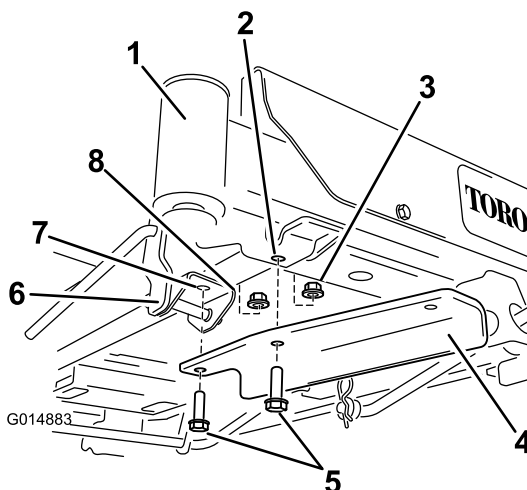

Figure 5
- For machines with a foot assist lift pedal: The washers will not be needed. Instead, remove the forward fasteners in the foot assist lift pedal bracket. Secure the bracket using two bolts and two lock nuts (Figure 5). One locknut is from loose parts and the other is reused from earlier removal.